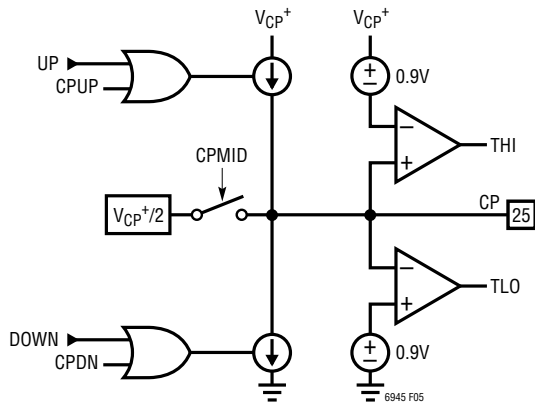

Figure 5. Simplified Charge Pump Schematic
The charge pump, controlled by the PFD, forces sink (DOWN) or source (UP) current pulses onto the CP pin, which should be connected to an appropriate loop filter. See Figure 5 for a simplified schematic of the charge pump.
The CPCHI and CPCLO bits found in register h0A enable the high and low voltage clamps, respectively. When CPCHI is enabled and the CP pin voltage exceeds approximately $V_{CP+} - 0.9\text{V}$, the THI status flag is set, and the charge pump sourcing current is disabled. Alternately, when CPCLO is enabled and the CP pin voltage is less than approximately 0.9V , the TLO status flag is set, and the charge pump sinking current is disabled. See Figure 5 for a simplified schematic.